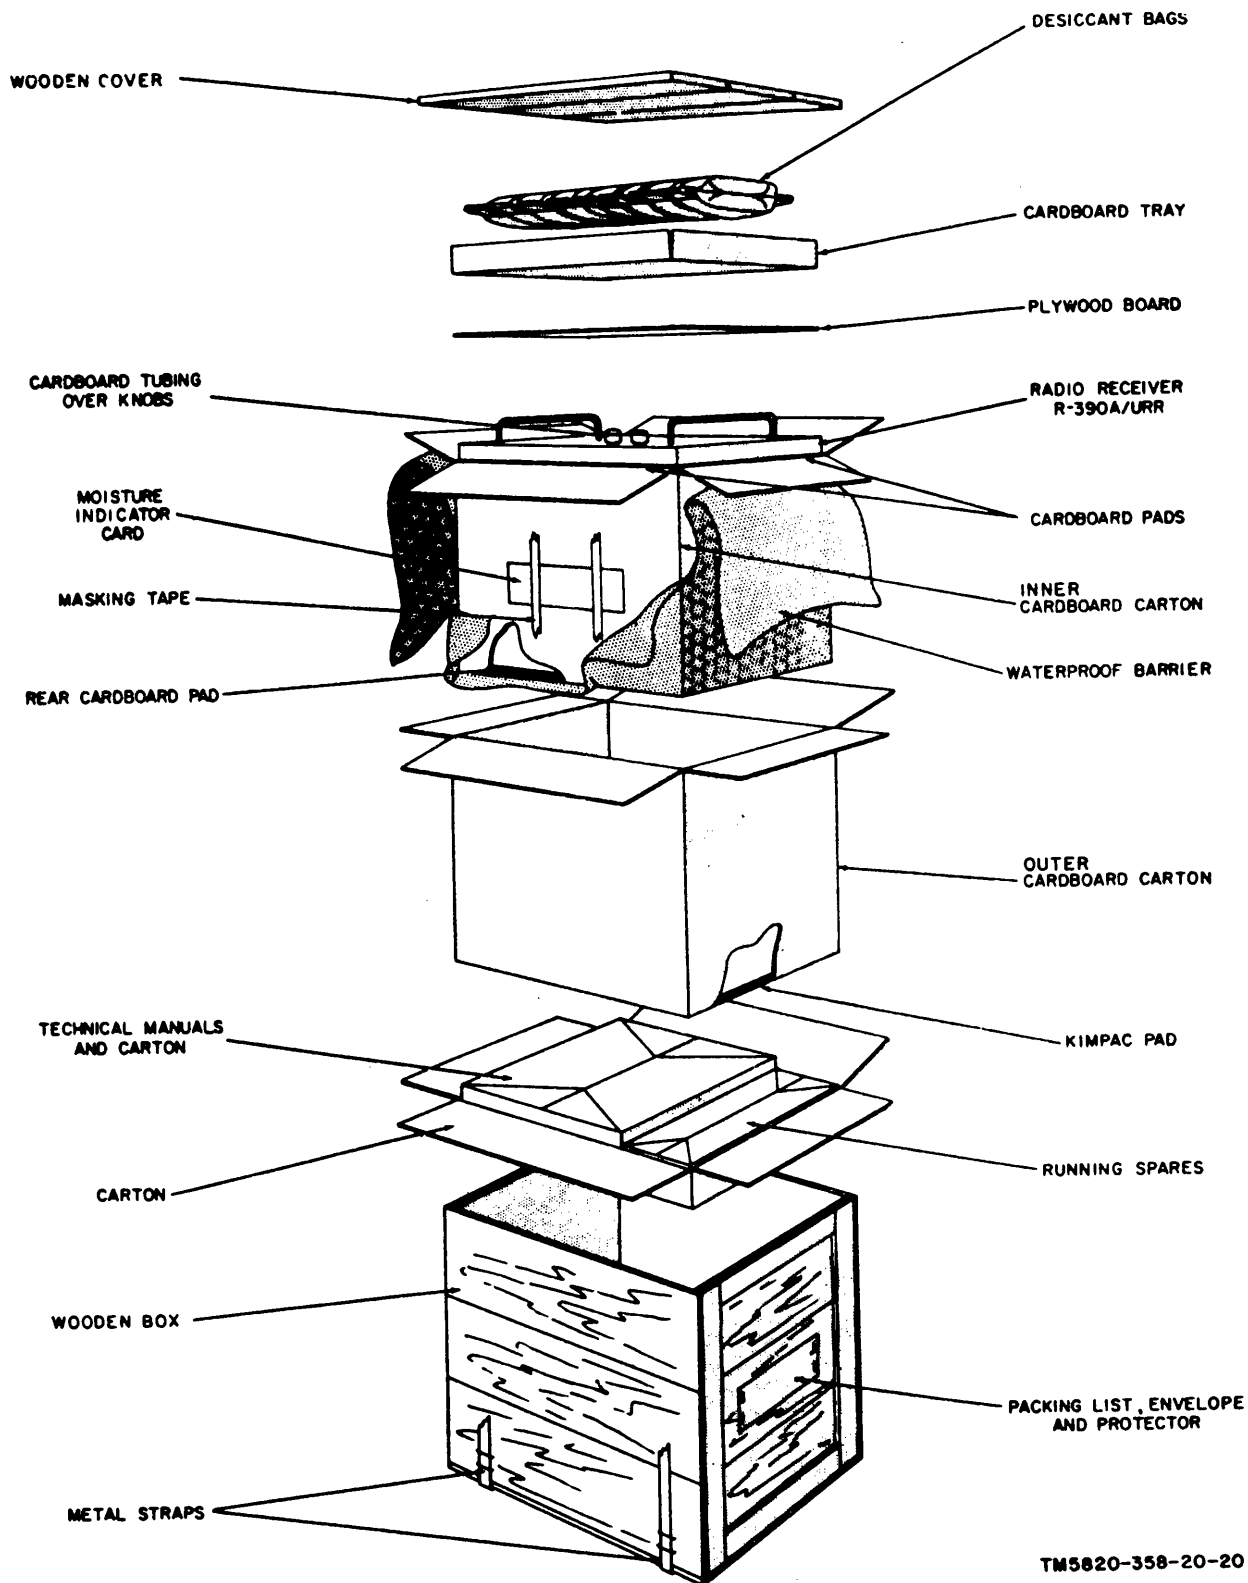

Figure 1. Packaging.
a. *Packaging Data.* When packed for shipment, the components of the receiver are placed in a water-vaporproof container and packed in a wooden box. An exploded view of the wooden box and its contents is shown in figure 1. The dimensions of the box are approximately 24 1/4 inches high, 20 1/2 inches wide, and 14 3/4 inches deep. The packed box weighs approximately .100 pounds, with a volume of 3.9 cubic feet.